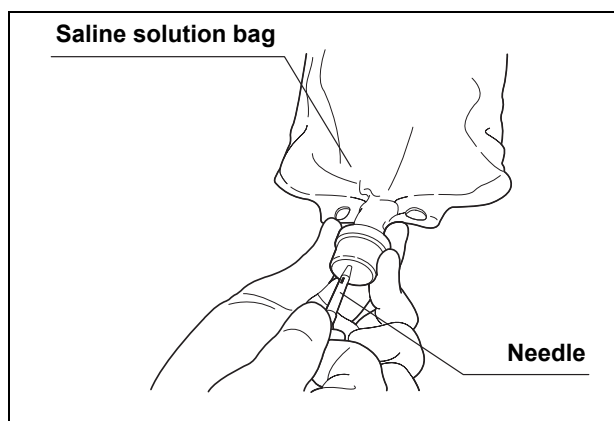

Figure 4.17
2. Remove the seal from a saline solution bag, remove the cap from the needle of the irrigation/suction tube and insert it into the bag (see Figure 4.17).